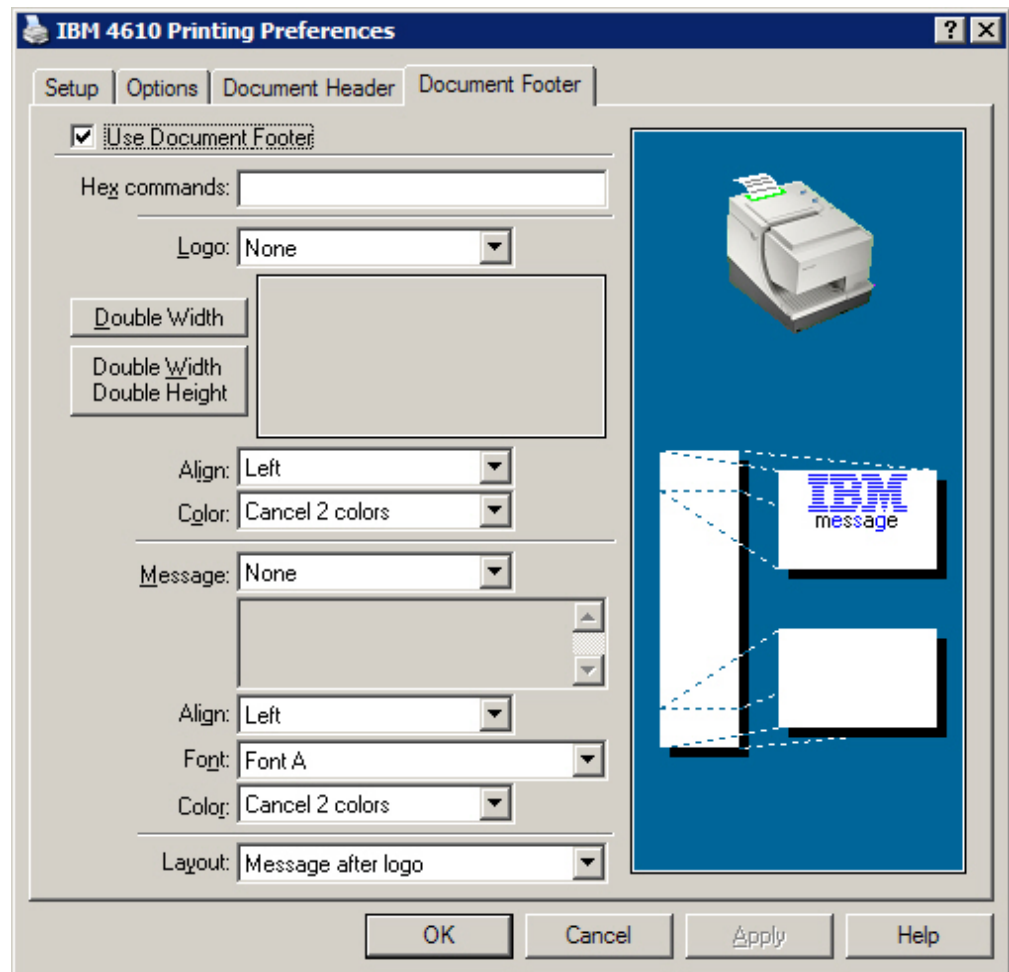

Figure 24. Document Footer tab
4. Click the **Document Footer** tab (see Figure 24).